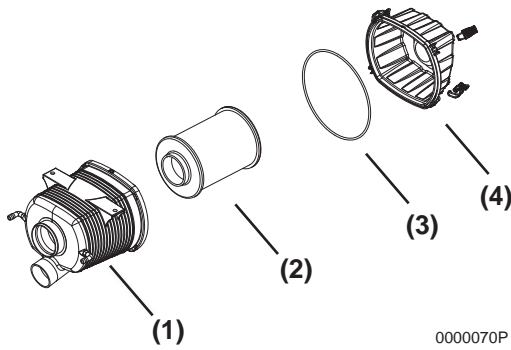

Figure 5-11
Note that a typical air cleaner is shown in **Figure 5-11** for illustrative purposes only.
1. Unlatch and remove the air cleaner cover (**Figure 5-11, (4)**).
2. Remove the element (**Figure 5-11, (2)**).
6. Install the element into the air cleaner case **(Figure 5-11, (1))**.
7. Install the air cleaner cover seal (if removed) **(Figure 5-11, (3))**.
8. Latch the air cleaner cover to the case, making sure the clips are secured **(Figure 5-11, (4))**.
Replace the air cleaner element **(Figure 5-11, (2))** every 150 hours even if it is not damaged or dirty. *NOTICE: The maximum air intake restriction, in terms of differential pressure measurement, must not exceed 0.90 psi (6.23 kPa; 635 mmAq). Clean or replace the air cleaner element if the air intake restriction exceeds the above mentioned value.*
When replacing the element, clean the inside of the air cleaner case **(Figure 5-11, (4))**.